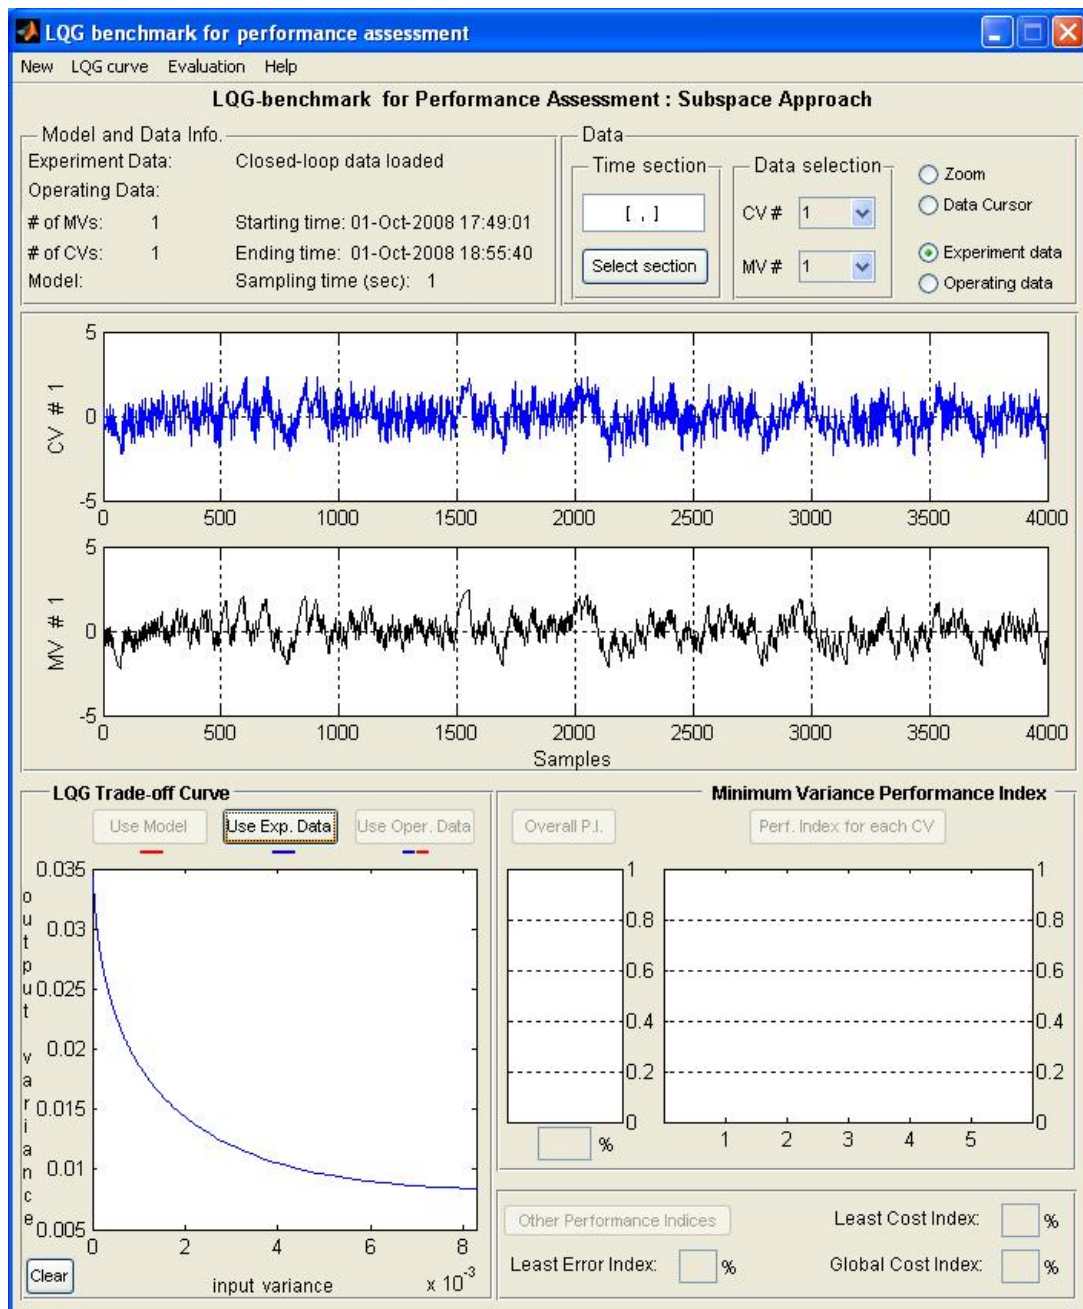

Figure 6: LQG curve estimated from closed-loop experiment data
10) If a set of closed-loop or open-loop experiment is loaded, you can press 'Use Exp. Data' to estimate and plot the curve (in blue) as in Figure 6. Depending on the type of process dynamics, number of inputs and outputs and number of data points, it will need a few seconds to a few minutes to perform the estimation.